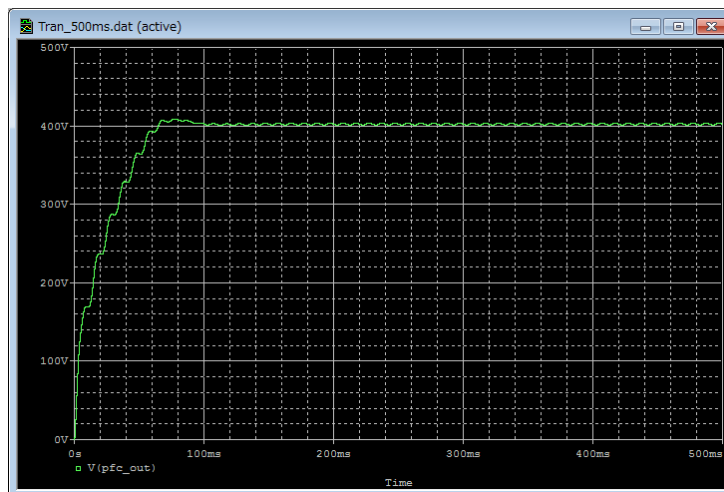

Figure 5.10 Simulation waveform view (Example: PFC output voltage waveform)
3. Then, its waveform appears in the graph window of PSpice® A/D as shown in Figure 5.10.